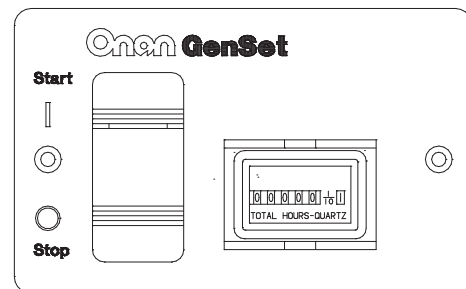

FIGURE 5. REMOTE SWITCH / HOUR METER
- Remote switch / status lamp and hour meter (Figure 5).